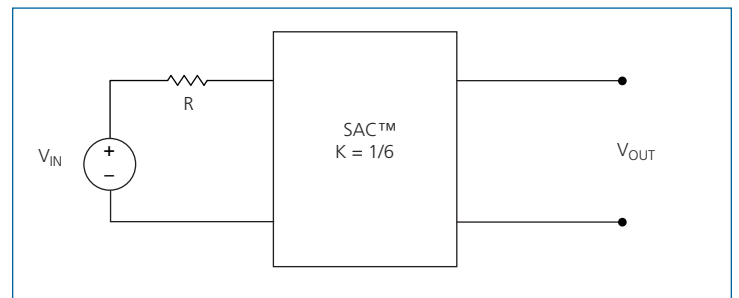

Figure 15 – K = 1/6 Sine Amplitude Converter™ with series input resistor
The use of DC voltage transformation provides additional interesting attributes. Assuming that R_{OUT} = 0 Ω and I_Q = 0 A, Eq. (3) now becomes Eq. (1) and is essentially load independent, resistor R is now placed in series with V_{IN} as shown in Figure 15.
Assuming that $R = 1 \Omega$, the effective R as seen from the secondary side is MC270A450M027FP-00 mΩ, with $K = 1/6$ as shown in Figure 15.